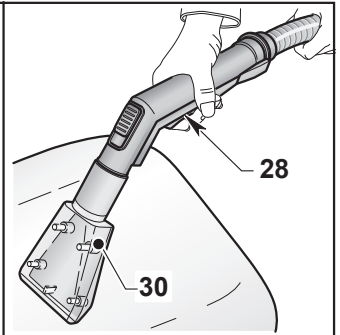

Fig. 16
- Mount the fabric nozzle (30 Fig. 16) on the relative hose (31 Fig. 16).